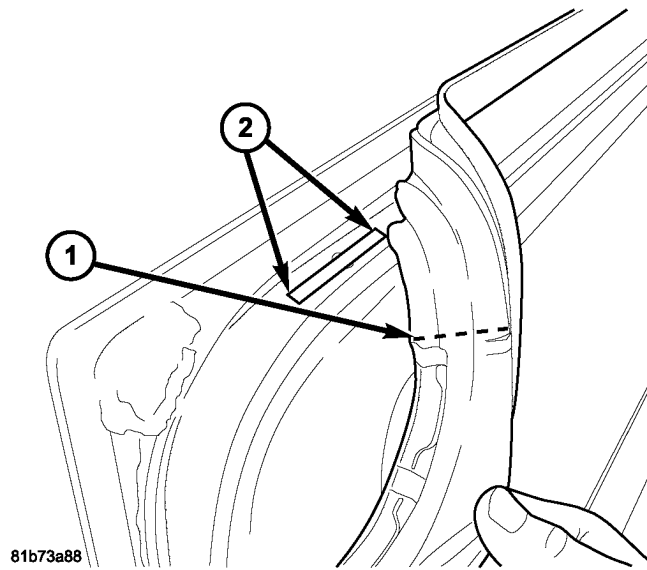

Fig. 1 UPPER WINDOW FRAME
1. Remove seal upper corner from the channel (Fig. 1).
3. Apply Weatherstrip Adhesive per the material instructions in a 4 - 6mm (3/16 in. - 1/4 in.) diameter bead x 50mm (2 in.) strip to the channel on top. Start the beads at a point even with the joint line on the seal corner to the rubber Weatherseal. The Weatherstrip Adhesive should not extend past the joint line of the corner material (Fig. 1).